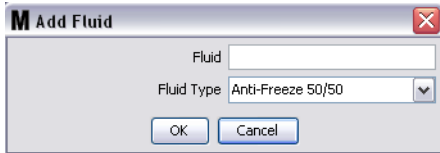

FIG. 111
3. On the Add Fluid screen type in a name for the fluid in the Fluid field (FIG. 111) (40 characters maximum). For ease of identification and reporting, it is recommended that short Fluid Names are used.